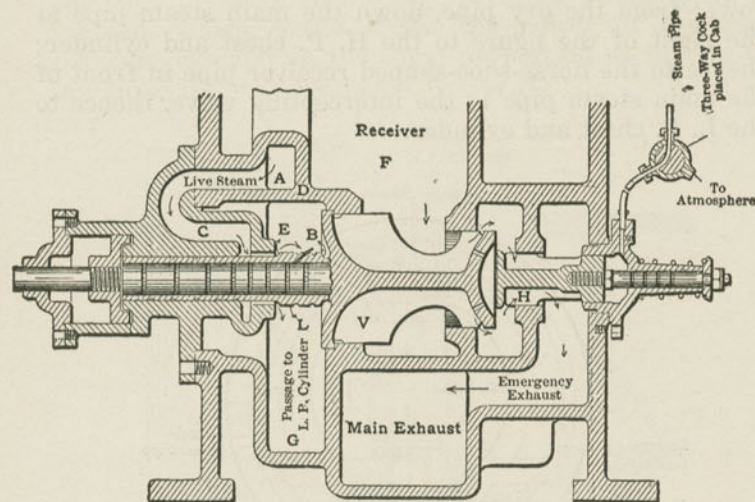

Fig. 334. Simple Position of Intercepting Valve.
*A. Referring to Figs. 334 and 335, where it is shown in compounding position: the passage G is open to the L. P. cylinder and to the receiver F. In starting, however, the machine starts automatically as a double H. P.*